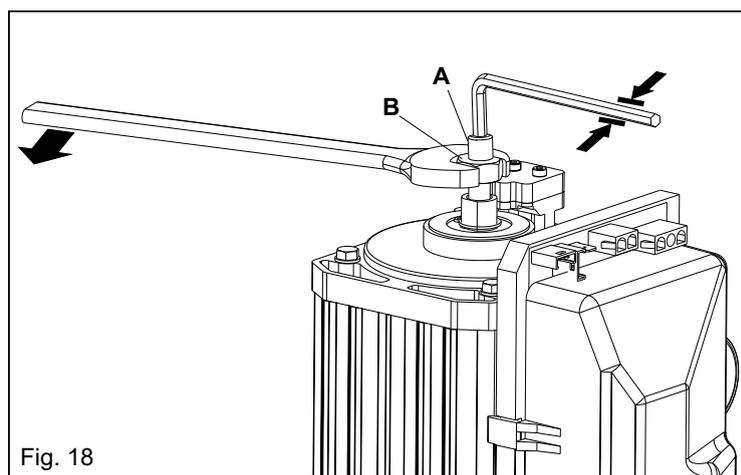

Fig. 18
- Loosen the blocking dice **B** (Fig. 18) keeping the clutch adjusting screw **(A)** still.